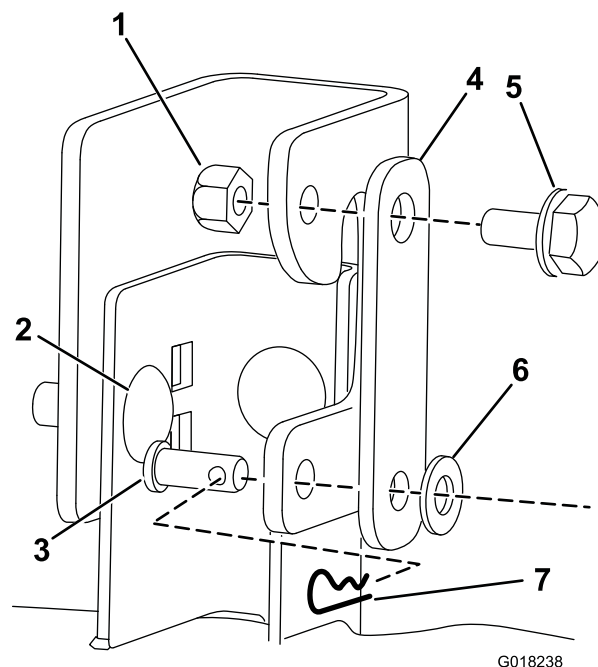
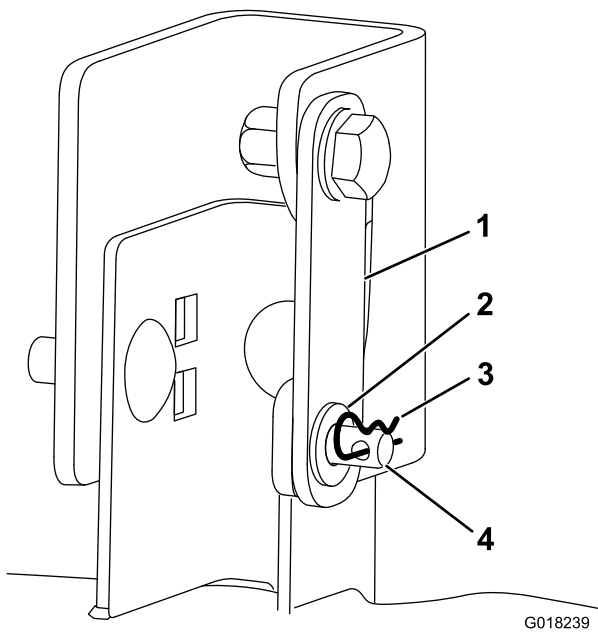

Figure 5
Figure 6
Note: Install the shoulder bolt through the upper hole in each hanger bracket (Figure 5).
7. After hanging the hanger brackets on the rear lift rod, install the open end of each deck support bracket to the hanger bracket with a clevis pin, a flat washer, and a cotter pin (Figure 5 and Figure 6).
6. Install a deck support bracket on each hanger bracket with a shoulder bolt and a locknut (Figure 5).